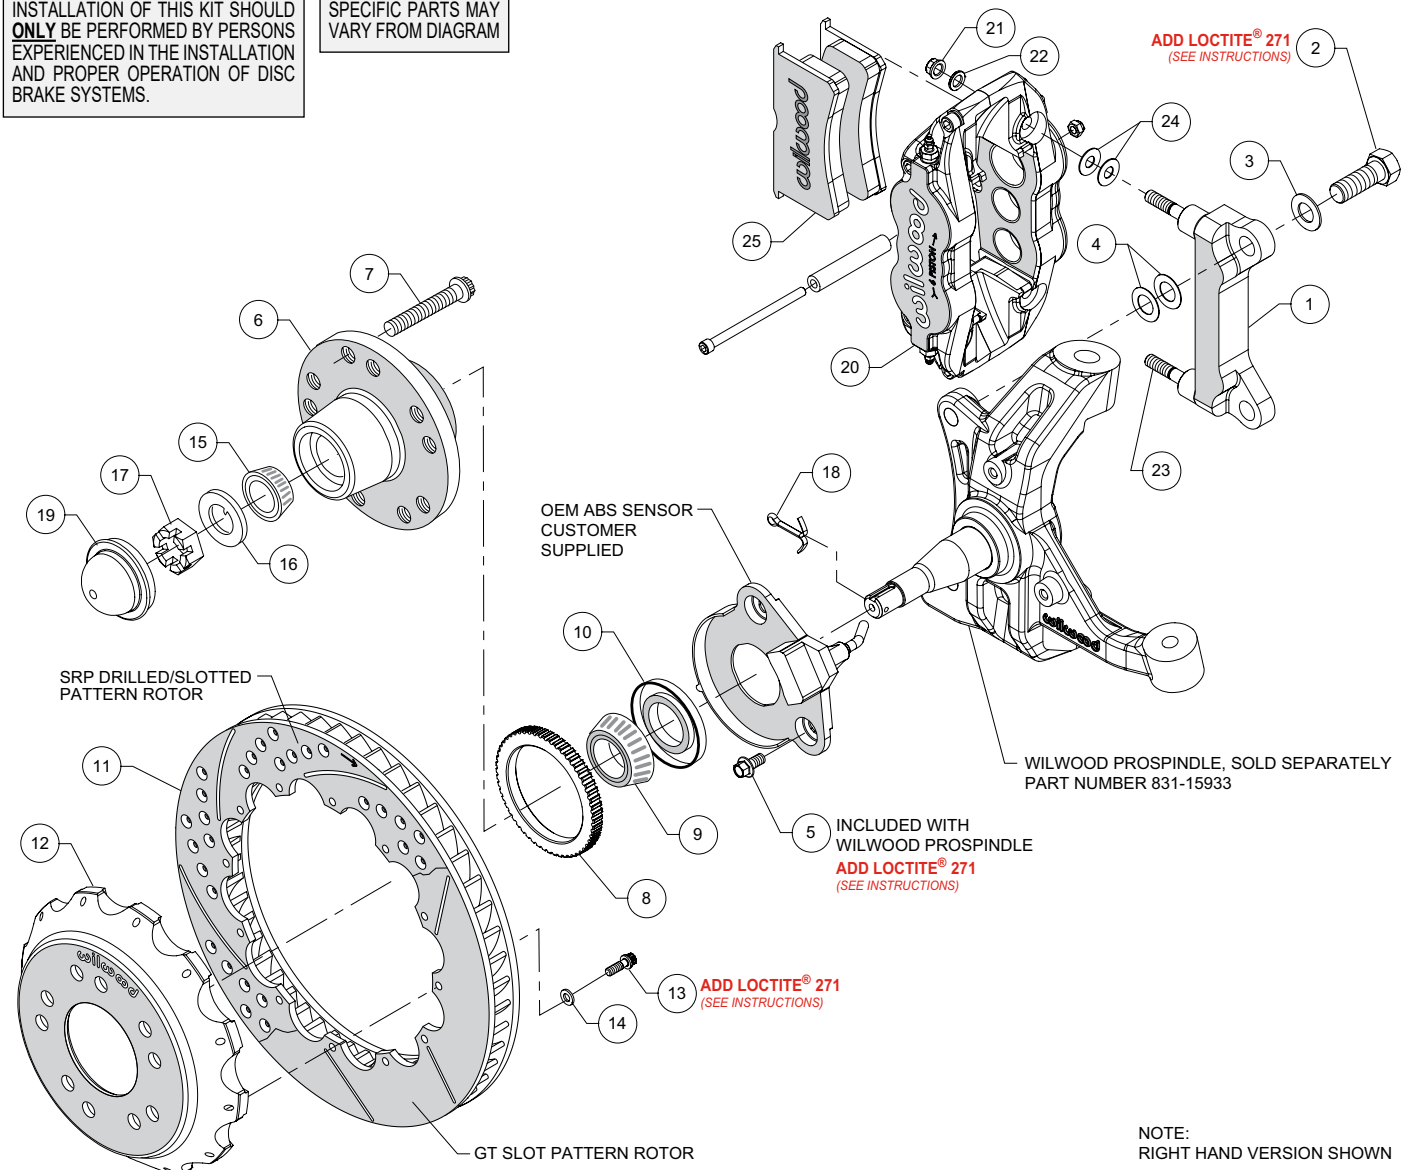
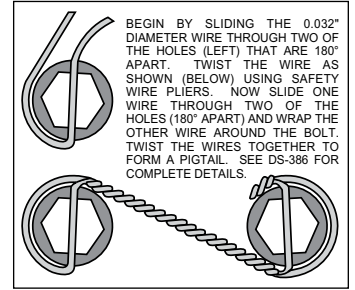

Figure 1. Typical Installation Configuration
Figure 3. Safety Wire Diagram
NOTE: Numbers in parenthesis refer to the parts list and Figure 1 on the preceding pages.
- For vehicles equipped with ABS, install the OEM ABS sensor (customer supplied) to the spindle using bolts (5) as shown in Figure 1 and Photo 3. Temporarily tighten the mounting bolts. **NOTE: The sensor must fit squarely against the mount bosses on the spindle.** Inspect for interference from casting irregularities, machining ridges, burrs, etc. Remove the bolts one at a time and apply red *Loctite*® 271 to the threads, and torque to 20 ft-lb.
- The caliper mount bracket (1) should initially be installed with clean, dry threads on the mounting bolts. Orient the bracket, as shown in Figure 1 and Photo 4, and install using bolts (2) and washers (3). Initially place two .024" thick shims (4) on each bolt between the bracket and spindle, Figure 1. Temporarily tighten the mounting bolts. **NOTE: The bracket must fit squarely against the mount bosses on the spindle.** Inspect for interference from casting irregularities, machining ridges, burrs, etc. Later, after the caliper alignment has been checked, the mount bolts will be secured using red *Loctite*® 271.
- Install wheel studs (7) into the hub (6), Photo 5. Torque to 77 ft-lb. **NOTE: There are two five lug patterns in the hub (5 x 4.75 and 5 x 5.00).** Ensure the correct hub stud pattern is being used to fit the wheel application.
- For vehicles equipped with ABS, carefully press the ABS ring (8) onto the backside of the hub (6) as shown in Figure 1 and Photo 6.
- Pack the large inner bearing cone (9) with high temperature disc brake bearing grease (available from your local auto parts store) and install into the backside of the hub (6), Photo 7.
- Install the grease seal (10) by pressing into the backside of the hub (6), flush with the end of the hub, Photo 7.
- Press the dust cap (19) into the hub (6). **NOTE: Do not hammer center of cap. Install using outer flange only.**
- Orient the rotor (11) and the hat (12) as shown in Figure 1 and Photo 9. Attach rotor to hat using bolts (13) and washers (14). Apply red *Loctite*® 271 to the bolt threads and torque to 155 in-lb using a criss-cross pattern. For an added measure of security, the bolts may be safety wired using standard 0.032 inch diameter stainless steel safety wire as shown in Figure 3. Refer to Wilwood's data sheet DS-386 (available at www.wilwood.com/Pdf/DataSheets/ds386.pdf) for complete safety wire installation instructions.
- Slide the hat/rotor (12 and 11) onto the hub (6), Photo 10. **NOTE: The hat must fit flush against the hub face or excessive rotor run out may result.** Install three lug nuts (finger tight) to keep the hat/rotor in place while continuing with the installation.
- NOTE: This kit contains distinct right and left hand calipers that must be mounted in a specific direction, as described below.** Initially place two .035" thick shims (24) on each stud between the caliper and the bracket, as shown in Figure 1 and Photo 11. Mount the caliper (20) onto the bracket (1) using lock nuts (21) and washers (22), Figure 1. Temporarily tighten the lock nuts. Ensure that the caliper is mounted so that the largest pistons are at the rotor exit end of the caliper, in relation to the direction of rotor rotation. View the rotor through the top opening of the caliper. The rotor should be centered in the caliper, Photo 12. If not, adjust by adding or subtracting shims (4) between the bracket and the spindle. Always use the same amount of shims on each of the two mounting bolts. Once the caliper alignment is correct, remove the bracket mounting bolts one at a time, apply red *Loctite*® 271 to the threads, and torque to 140 ft-lb.